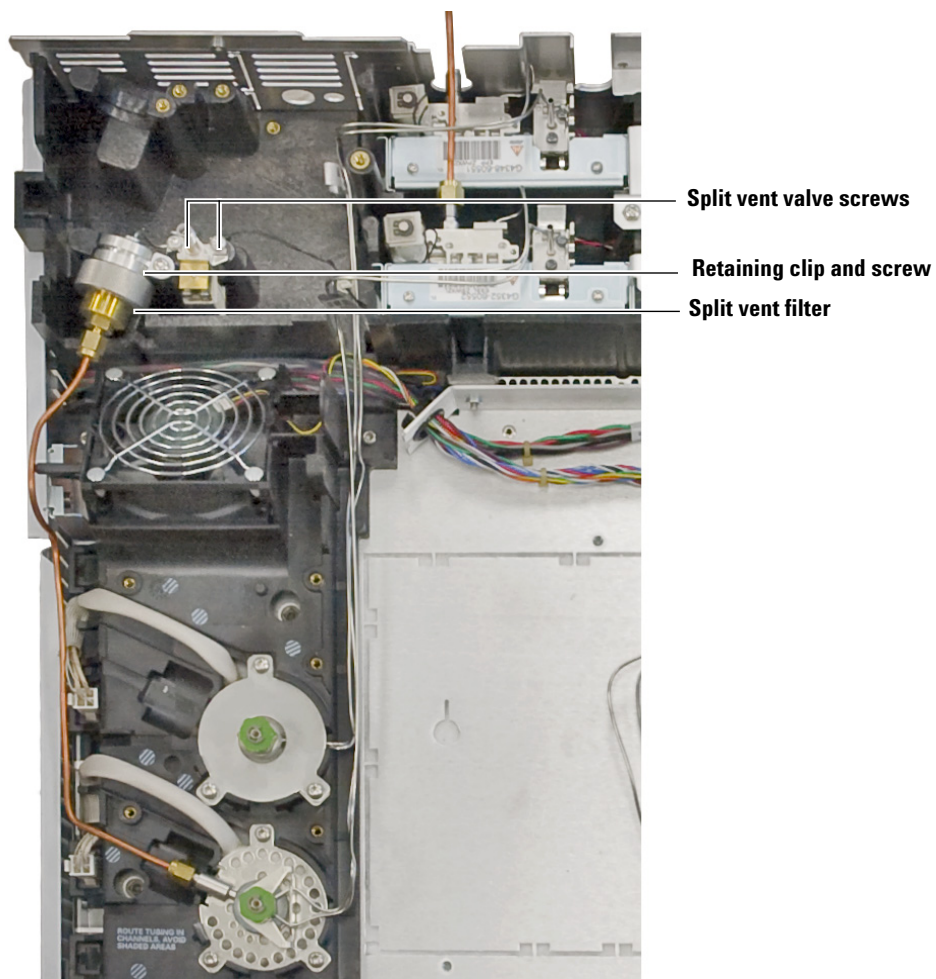

Figure 8 Split vent filter assembly fully installed
- 2 Install the split vent filter into the appropriate housing, making sure that the flat sides on the split vent filter are vertical. The split vent filter will lock into place when properly installed. (See Figure 8.)